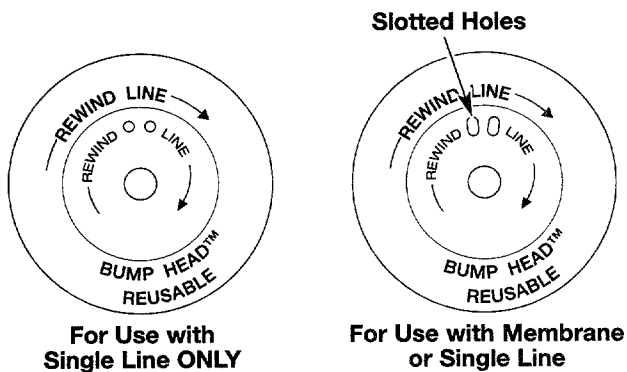

Figure 24
**NOTE:** Membrane can only be used with the inner reel with the slotted holes. Single line can be used on either type of inner reel. Use Figure 24 to identify the inner reel you have.